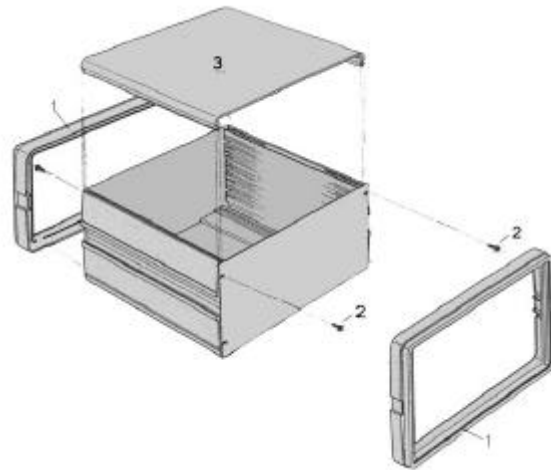

Figure 3
See Figure 3. Remove the two sheet metal screws (2) from the top of the front and rear panels. Do **not** remove the screws from the bottom of the front and rear panels.